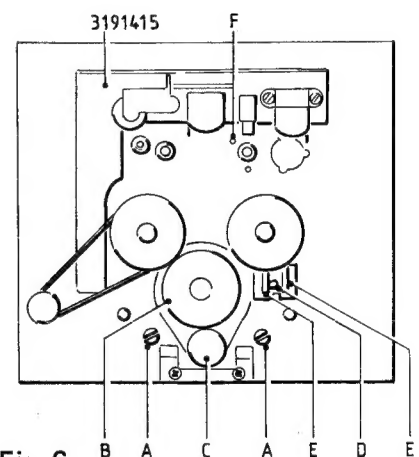

Fig. 6
- f) Remove the two cylinder-head screws "A" (Fig. 6) and the two separators (3019445) between the rear of the mounting plate and the reel drive aggregate.
- a) The lower edge of the head bracket (3191415) should cover half the reference hole "F" behind it when electrically engaged (Fig. 6).